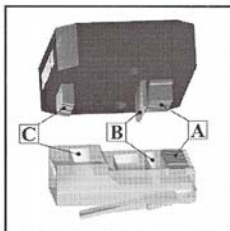

Fig.1.
\*Note: Fig.1. represents unshielded 8P microplug and corresponding part of die-set. Shielded microplugs lack primary (C) and secondary (B) strain relief booth and unshielded CAT5 plugs lack secondary (B) strain relief booth. Choose die-sets correspondingly.